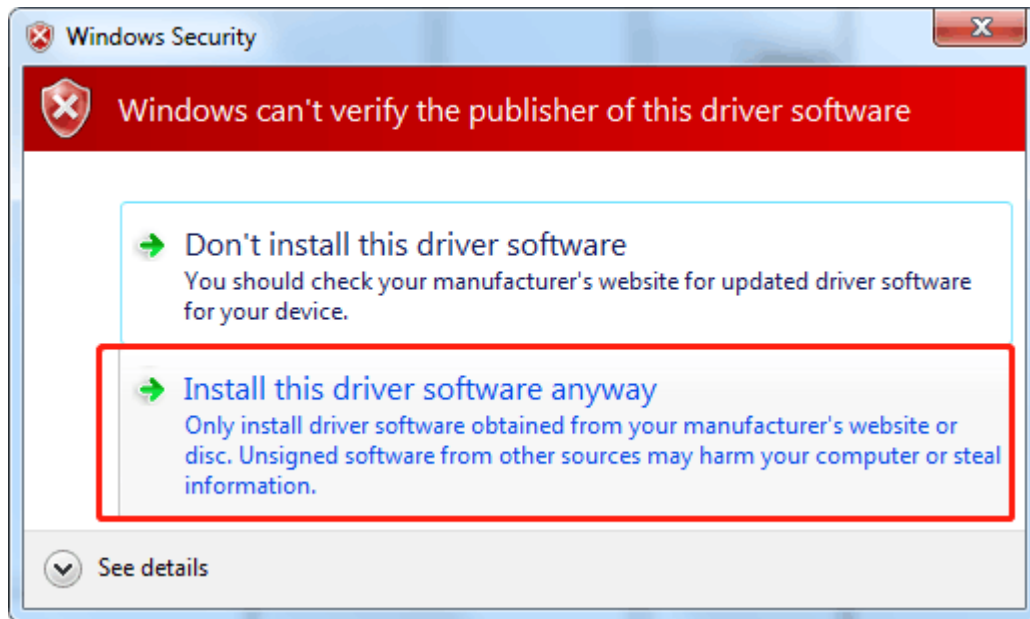

Figure 1.7
- 5) Click "always install this driver software" in the popup window as shown in figure 1.7